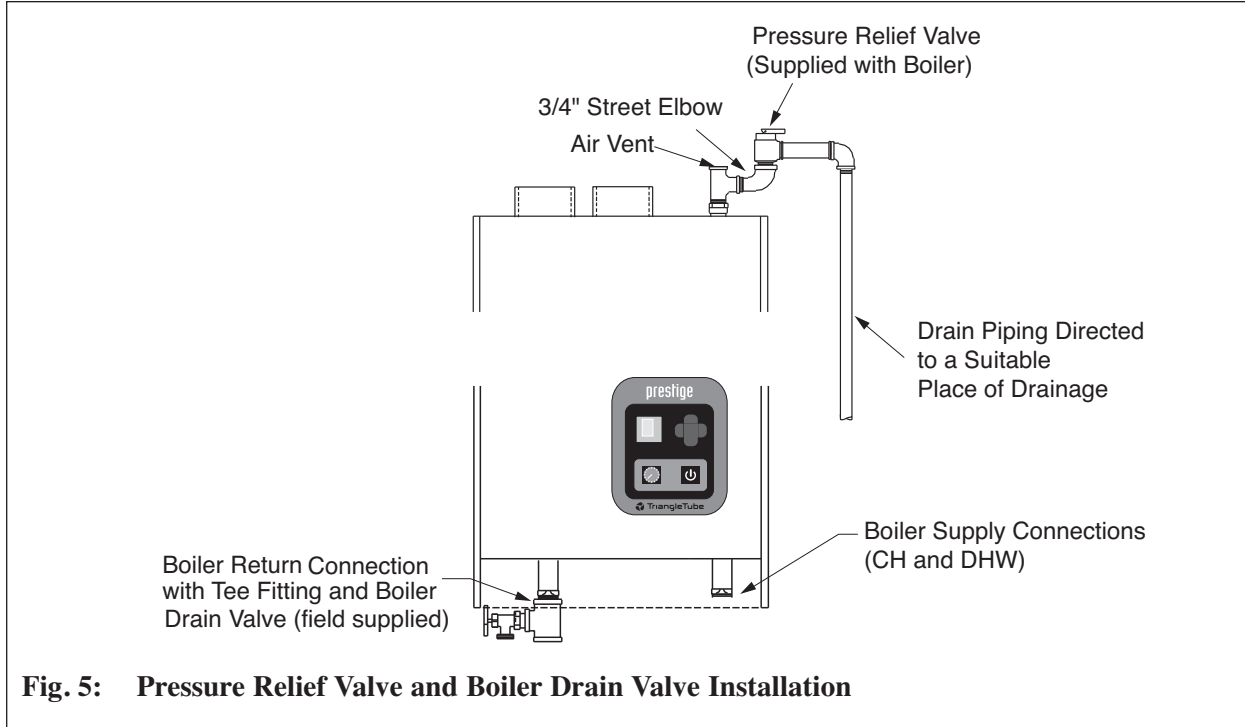

Fig. 5: Pressure Relief Valve and Boiler Drain Valve Installation
1. The PRESTIGE Solo is supplied with a 30 psi pressure relief valve and must be piped using the PRV connection as shown in Fig. 5 page 15.